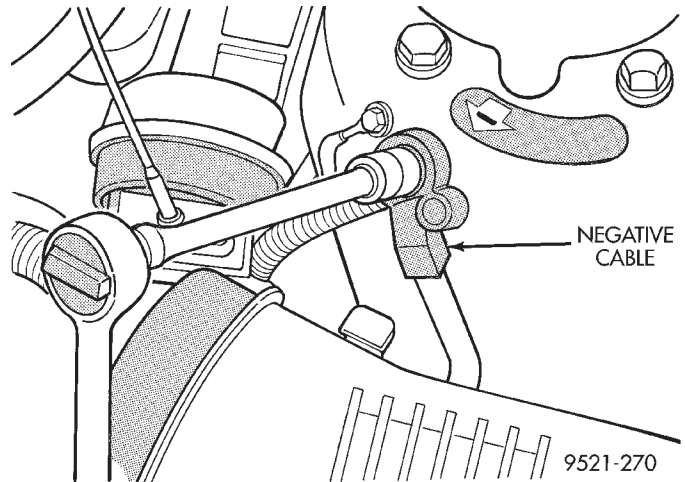

Fig. 41 Negative Cable
(1) Disconnect battery negative cable at left strut tower (Fig. 41).